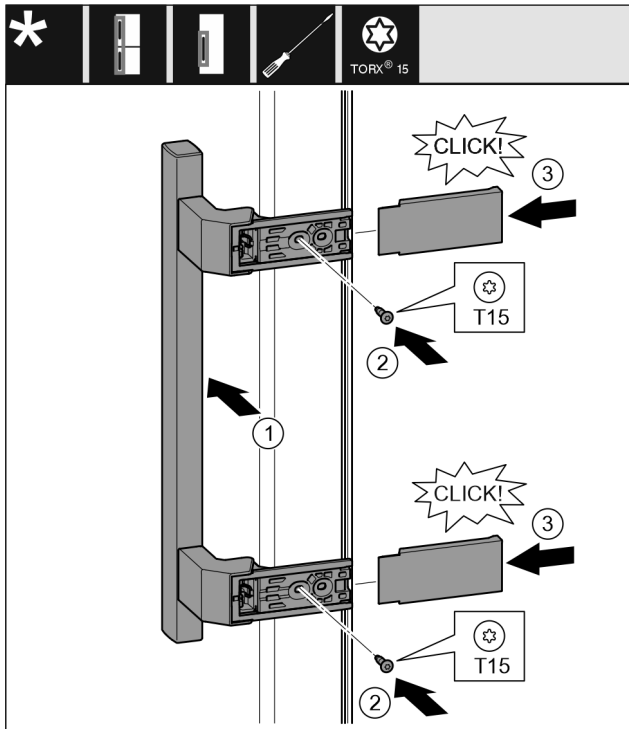

Fig. 23
- ▶ Position the handle on the opposite side. Fig. 23 (1)
- ▶ Tighten the screws using the T15 screwdriver. Fig. 23 (2)
- ▶ Position the covers on the side and push them on. Fig. 23 (3)